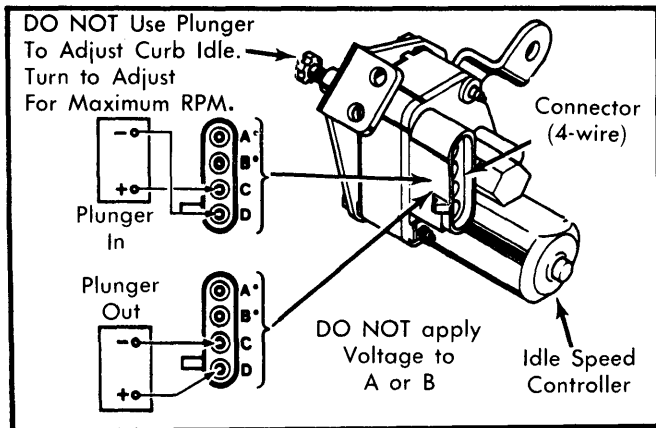

Fig. 5 Idle Speed Control Adjustment Connections
3) Unplug ISC connector from motor. Retract plunger by applying 12 volts to terminal "C" and grounding terminal "D" or ISC motor. See Fig. 5. Do not leave 12 volts connected to the ISC motor any longer than necessary to retract plunger.
5) Extend ISC plunger by applying 12 volts to terminal "D" and grounding terminal "C" of ISC motor connector. See Fig. 5. Adjust plunger to obtain Maximum Authority RPM. Recheck adjustment RPM by applying voltage to extend plunger (plunger will ratchet at full extension).